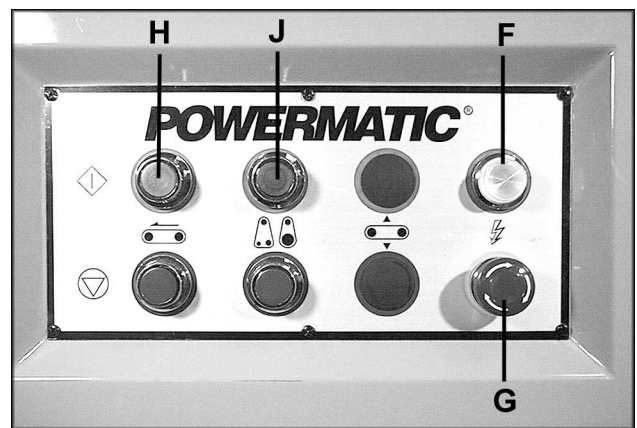

FIGURE 11
At this point the Power Lamp switch light (F, Fig. 11) on the control panel should be on. Turn the Emergency Brake button (G, Fig. 11) to the right (clockwise), then release.
8. Press the conveyor belt ON switch (H, Fig. 11). With the operator facing the control panel, the conveyor belt should rotate in a counterclockwise direction.
9. With the conveyor belt switch properly wired, press the sanding belt ON switch (J, Fig. 11) for machine operation.